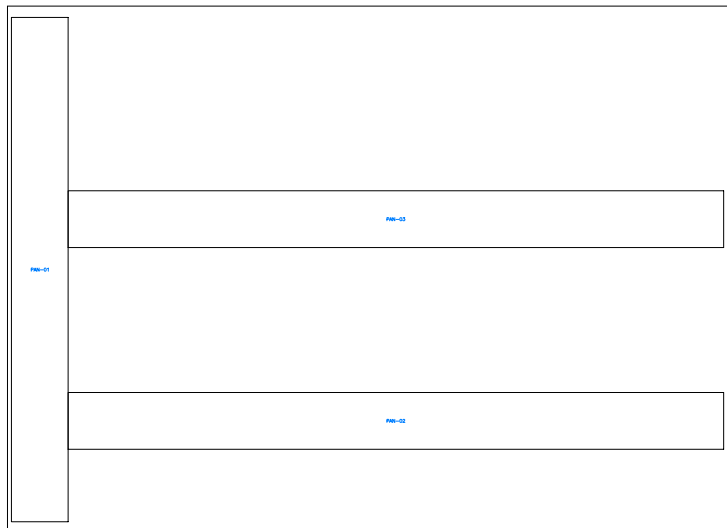

Figure P2-4 PAN-03 DIN Rail inserted in the drawing
25. Choose the **OK** button in this dialog box; the PAN-03 DIN Rail is inserted in the drawing, as shown in Figure P2-4.